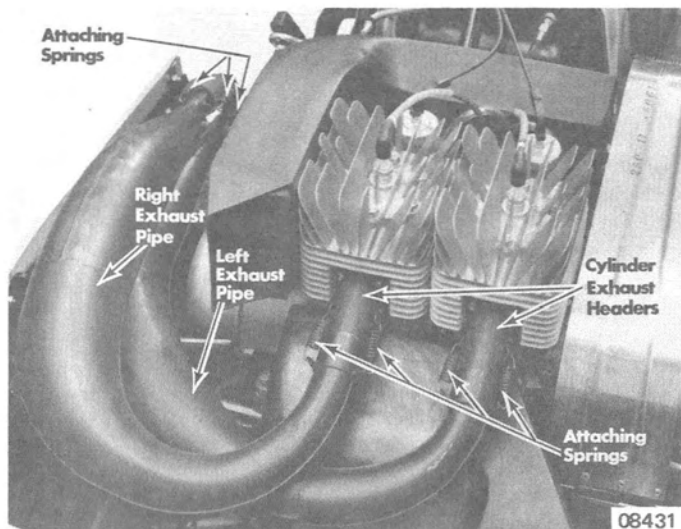

Figure 1. Exhaust Pipes
1. Remove 4 attaching springs which secure exhaust pipes to cylinder exhaust headers. (Figure 1)
2. Remove 2 attaching springs, which secure right exhaust pipe (No. 2 cylinder - rewind side) to muffler, and pull right exhaust pipe (Figure 1) from muffler seal hose and exhaust header.
3. Remove 2 attaching springs, which secure left exhaust pipe (No. 1 cylinder - PTO side) to muffler, and pull left exhaust pipe (Figure 1) from muffler seal hose and exhaust header.